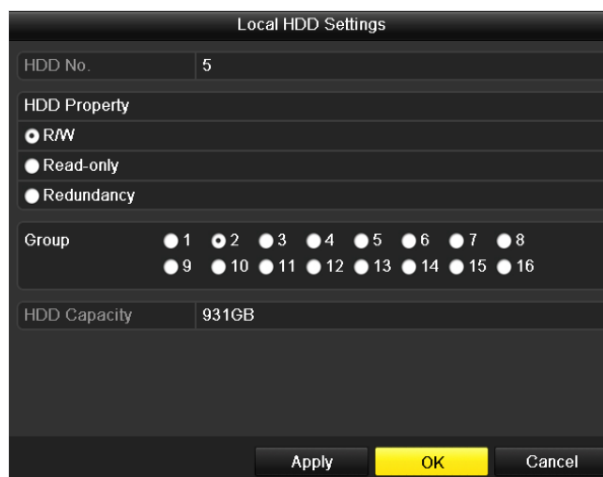

Figure 14-13 Local HDD Settings Interface
Step 6 Select HDD from the list and click the icon to enter the **Local HDD Settings** interface, as shown in Figure 14-13.